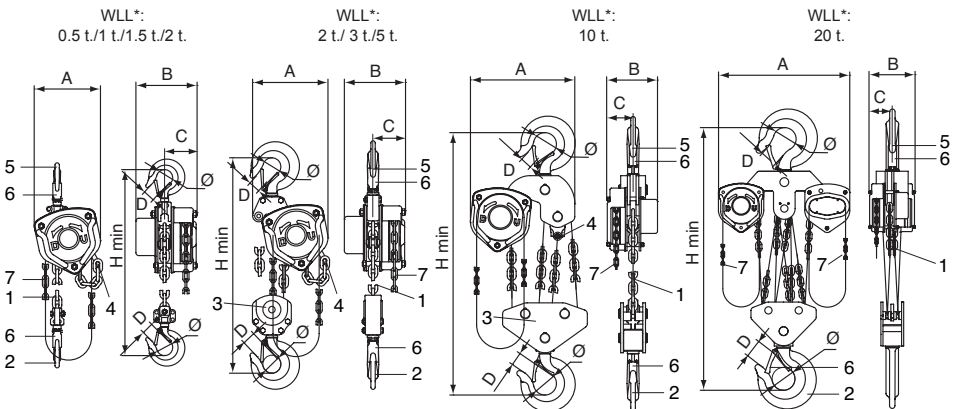

Fig. 1
The tralift™ hoist is supplied equipped with a load chain (item 1, fig. 1) and a hand chain (item 7, fig. 1) compatible for a standard lifting height of 3 m.
The load chain is formed by one or several strands (see §2 technical specifications), equipped with a lifting hook (item 2, fig. 1) on its load-end side ; on the other end (slack strand side), the load chain is secured to a low limit stop (item 4, fig. 1) itself secured to the hoist.
3. Check that the hook (item 2, fig. 1) and the safety latches (item 6, fig. 1) are in good condition.
4. Check that the end of the load chain, slack strand side, is secured to the low limit stop of the hoist (item 4, fig. 1).
1. Check that the tralift™ hoist is properly suspended by its suspension hook (item 5, fig. 1) and that the hook safety catch (item 6, fig. 1) is properly closed (see figs 2 and 3).